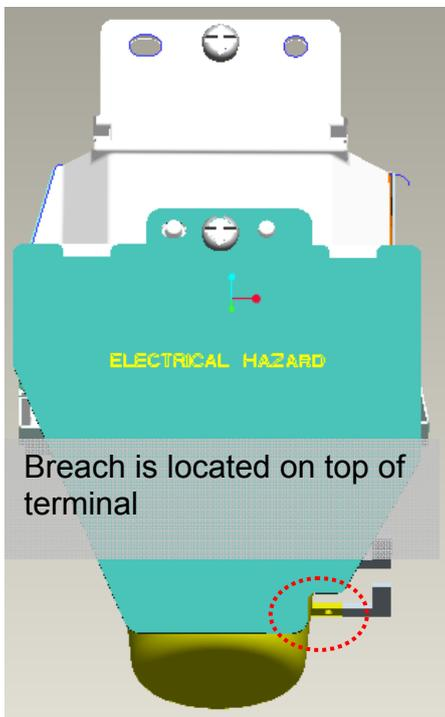

Fig.1-17
- vii. Assemble Clip Plate to HLD Lamp and breach is located on top of terminal then lock screw (Fig. 1-17).